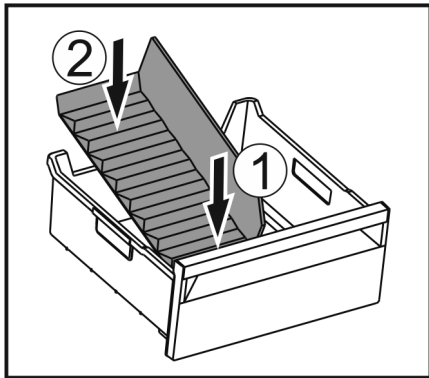

Fig. 214
- ▶ Insert the front part of the ice compartment divider. Fig. 214 (1)
- ▶ Lower the rear part of the ice compartment divider to the drawer bottom. Fig. 214 (2)